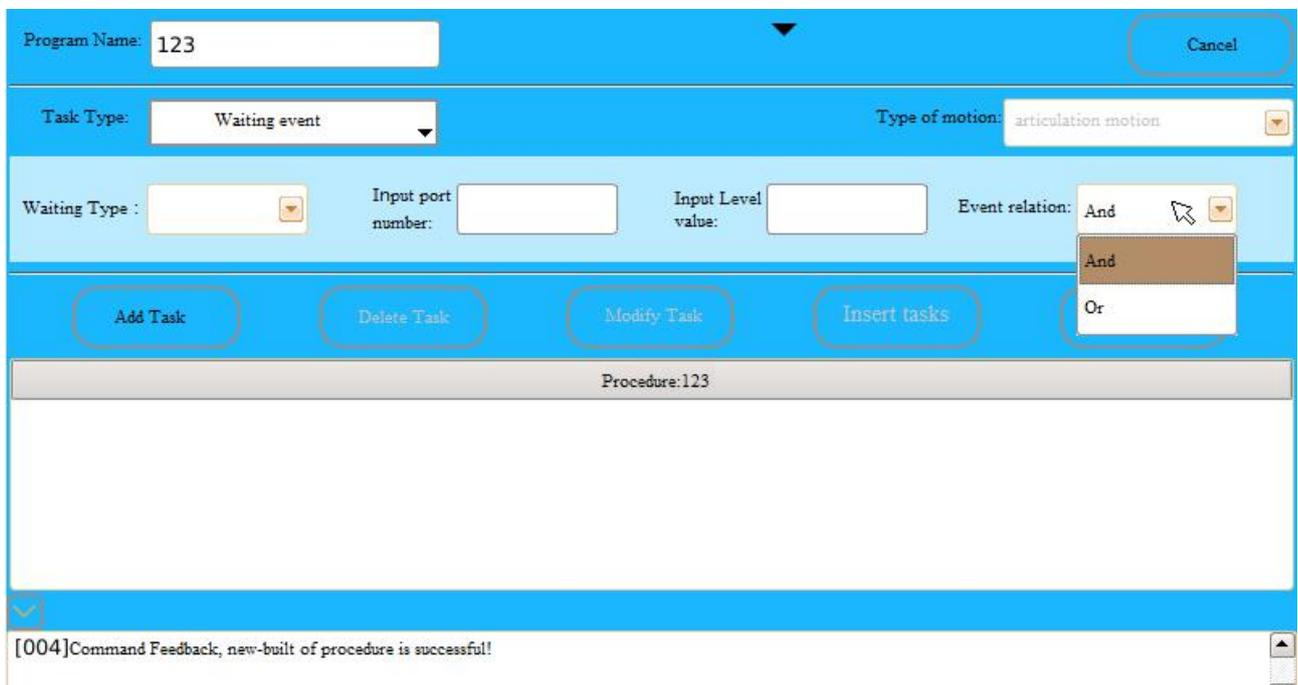

Fig.4.8 “Waiting for an Event” Task Types
(7) The “Waiting for an event” task type — the “Waiting for an event” task type should be used with the I/O port, and the system provides 20-way coupling isolation input port. After selecting the “Waiting for an event” task type, enter the corresponding value in the “Enter the port number”, “Input electrical level value” and “Event relationship” prompt boxes as shown in Fig. 4.8. Click the “Add task” button to complete the operation, as shown in Fig. 4.8.